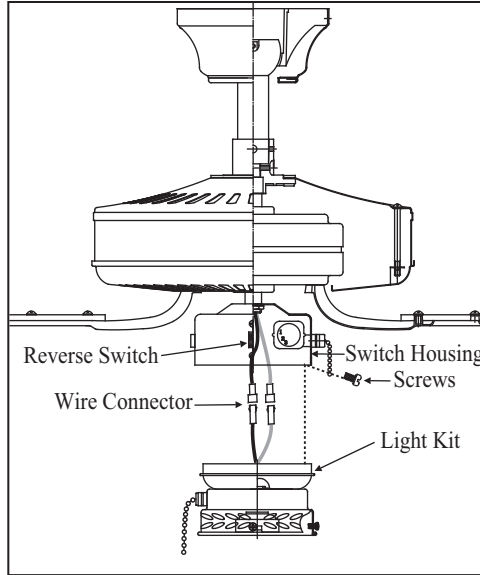

Figure 19
2. Carefully push all wires back into the switch housing. Attach the light kit fitter by aligning its keyhole slots with the three screw holes and the reverse switch on the side of the switch housing. Tighten the three screws securely to prevent the light kit from vibrating loose. (Fig. 19)